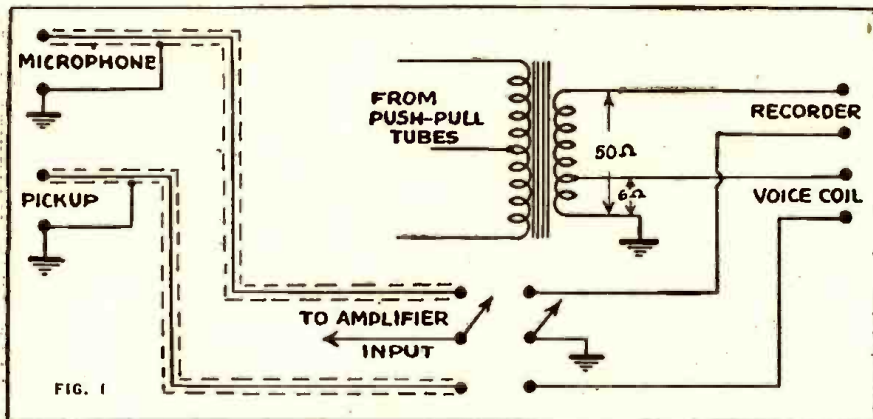

FIG. 1
A. The circuit shown is suited for your recorder, which has an input impedance of 50 ohms. Since you did not state the impedance of your voice coil, I am assuming it to be 6 ohms. A voice coil of different impedance would, of course, have to be tapped into the correct section of the output transformer. (See Fig. 1.)